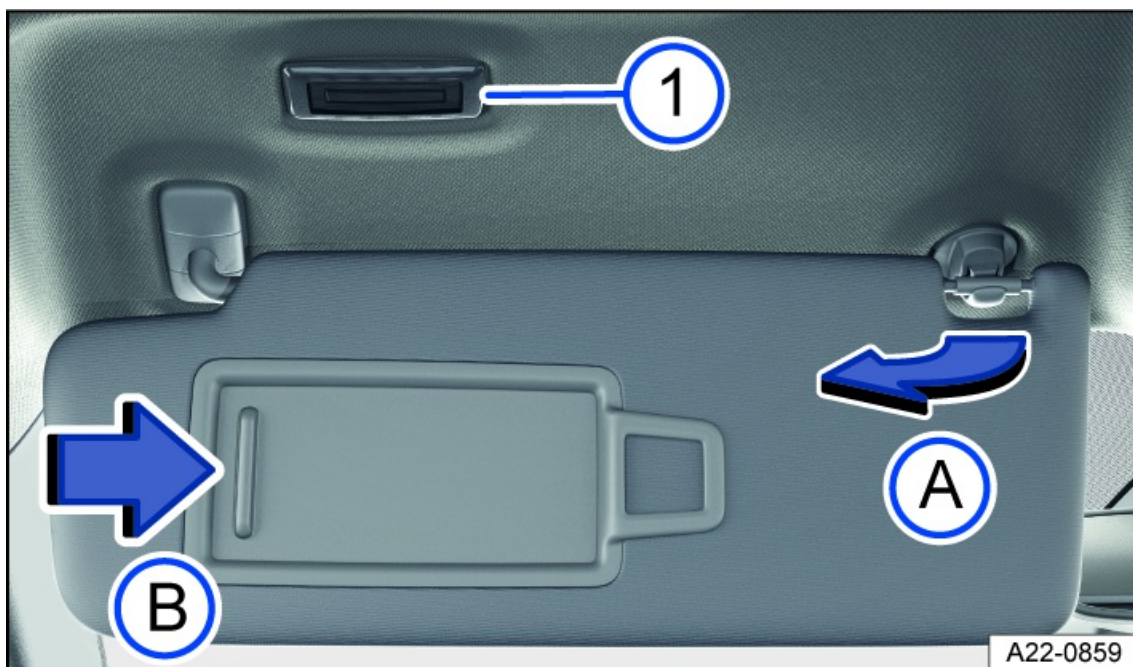

Fig. 79 In the front of the headliner: sun visor.
- Remove from the holder and tilt toward the door *fig. 79*.
When the sun visor is folded down, there is a vanity mirror located behind a cover. The lights *fig. 79* turn on when the cover *fig. 79* slides open.